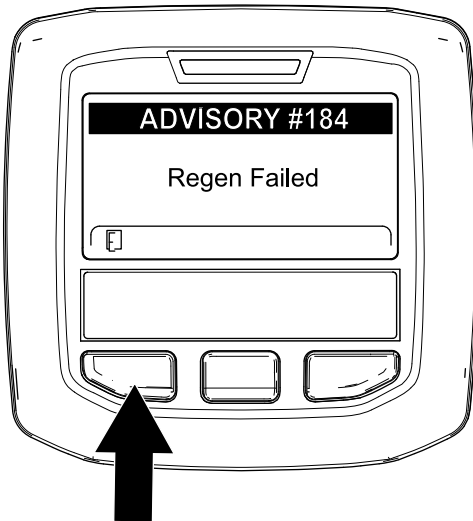

Figure 86
**Note:** If the regeneration fails to complete, the InfoCenter displays Advisory #184 (Figure 86). Press the left button to exit to the home screen.